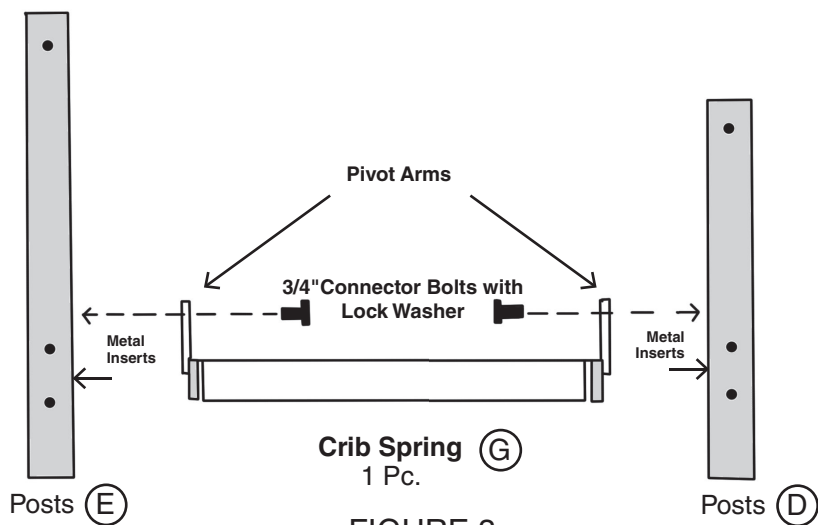

FIGURE 3
3. Attach crib spring (G) to metal insert with four— $\frac{3}{4}$ " Connector Bolts with lock washers, using Allen Wrench provided. See Figure 3. There are three metal inserts for height adjustment of crib spring. **Note: Crib spring should be lowered as child grows to discourage child from trying to climb out.**